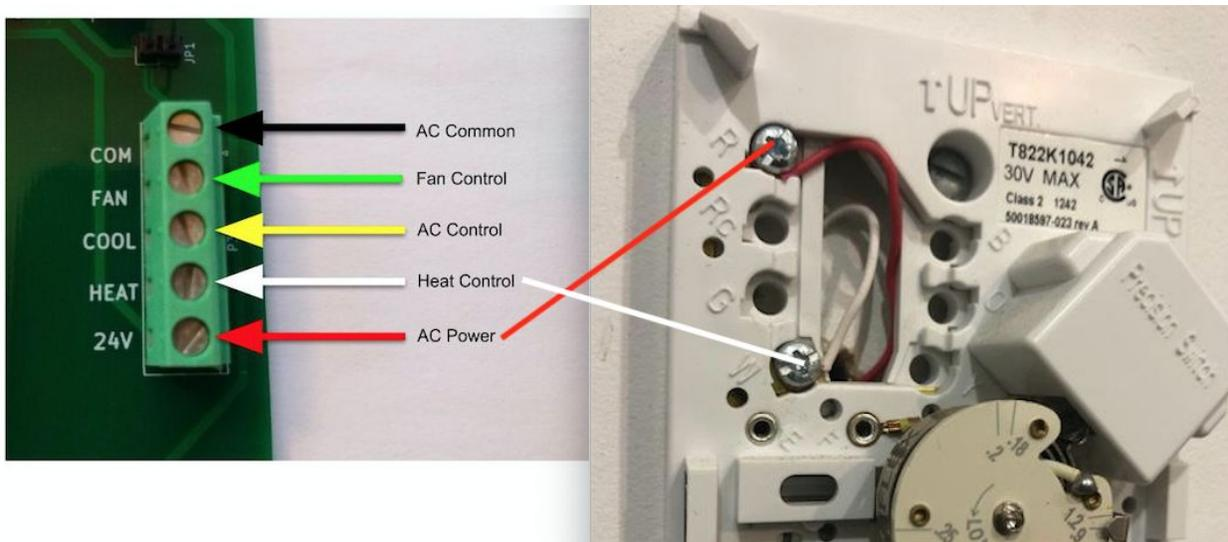

Figure 8 Two wire connection diagram
- m. Connect power to the USB connector of the Thermostat using the included power adapter. See figure 8.